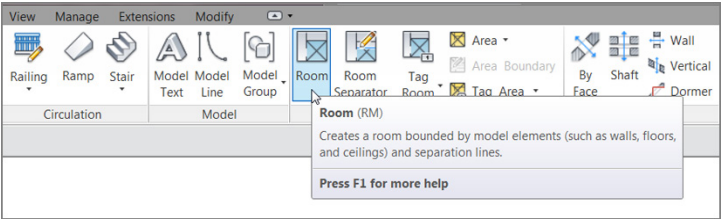

FIGURE 15.1: Clicking the Room button on the Room & Area panel of the Architecture tab
- 2. In the Room & Area panel on the Architecture tab, click the Room button, as shown in Figure 15.1.